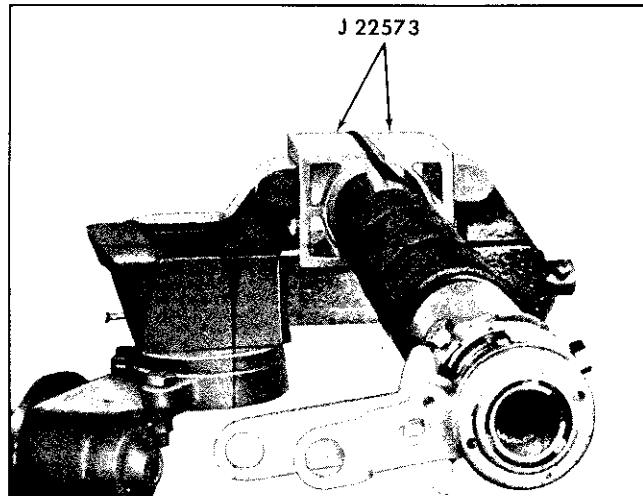
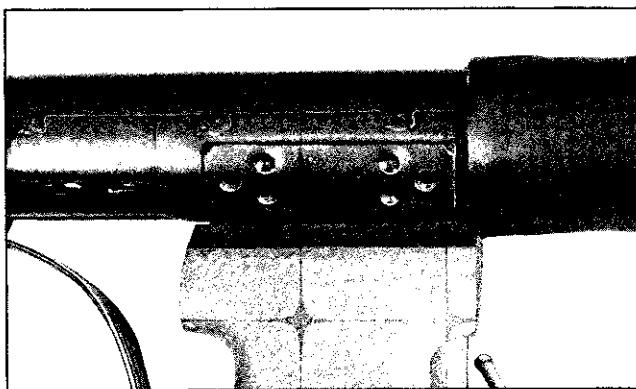
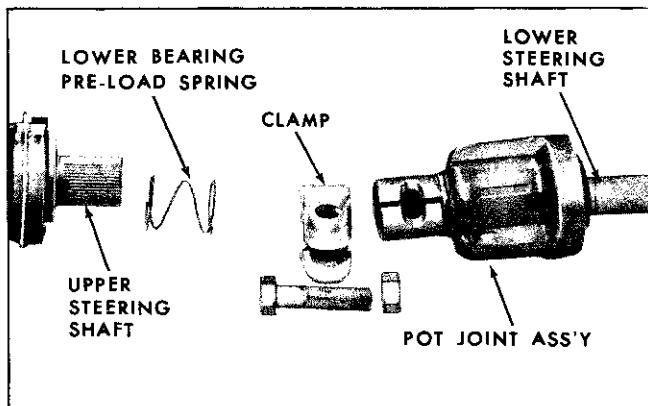

Fig. 9-15 Mounting Column in Vise
Fig. 9-16 Mounting Column in Vise by Tapping Plate
Fig. 9-17 Removing Pot Joint and Lower Shaft from Upper Steering Shaft (Tempest Only)
3. Mount column in vise, using tool J 22573 (Fig. 9-15) or by clamping one tapping plate in a vise (Fig. 9-16). On Tempest models disconnect lower shaft and pot joint from upper shaft by removing clamp (Fig. 9-17) if pot joint is to be serviced.
NOTE: On Tempest models assemble lower steering shaft and pot joint to upper steering shaft. Tighten clamping nut to 32 lb. ft. (Fig. 9-17).
prying out carefully with a screwdriver (Fig. 9-15). If a wire cover is present, it can be removed like the wire clip by squeezing the edges together.
3. Mount column in vise using tool J 22573 (Fig. 9-15) or by clamping one tapping plate in a vise (Fig. 9-16). On Tempest models disconnect lower shaft and pot joint from upper shaft by removing clamp (Fig. 9-17).